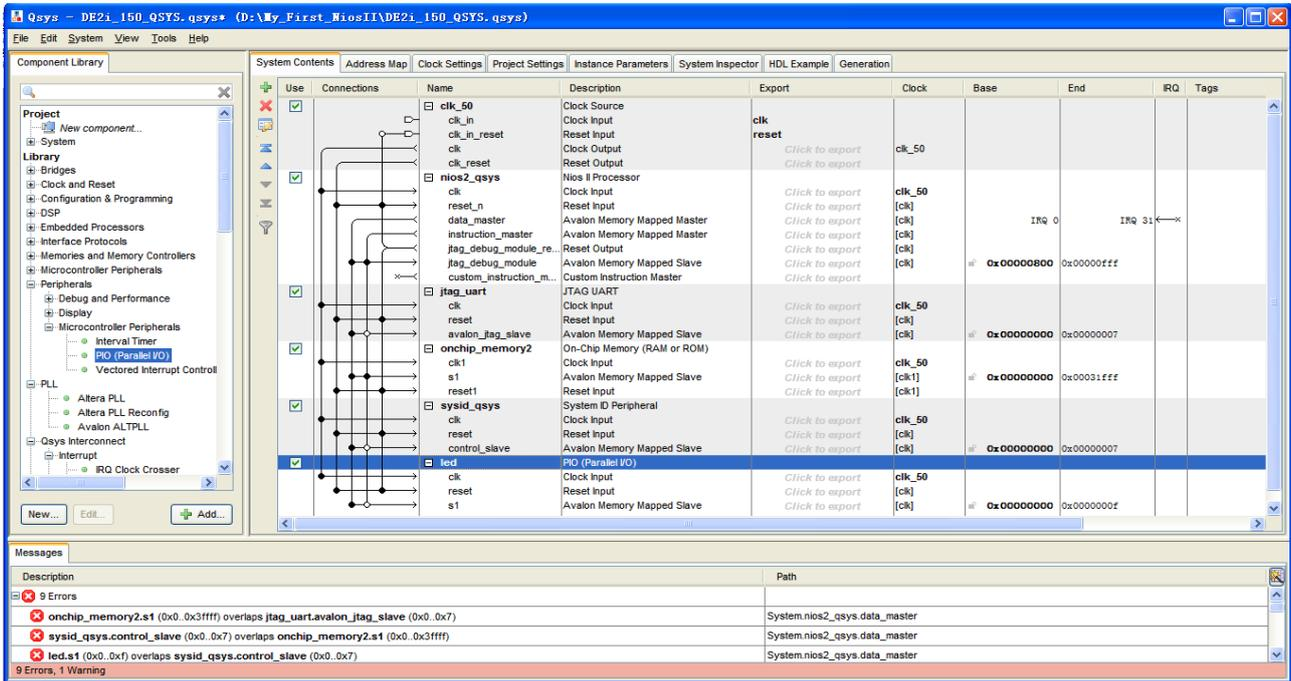

Figure 1-41 Connect PIO
26. Connect the **clk** and **clk_reset** and **data_master** as shown in Figure 1-41.